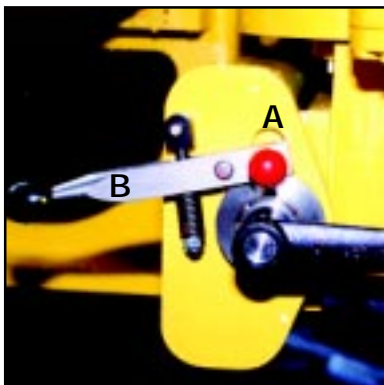

figure 1
1. Before proceeding to install the Guillotine, make sure that the blade is raised as high as possible by turning the feed handle clock-wise until it tops out. Make sure that the feed control lever is locked in the neutral (disengaged) position. This is done by pushing the feed lock out pin **A** towards the machine, while forcing the feed control lever **B** down (figure 1).